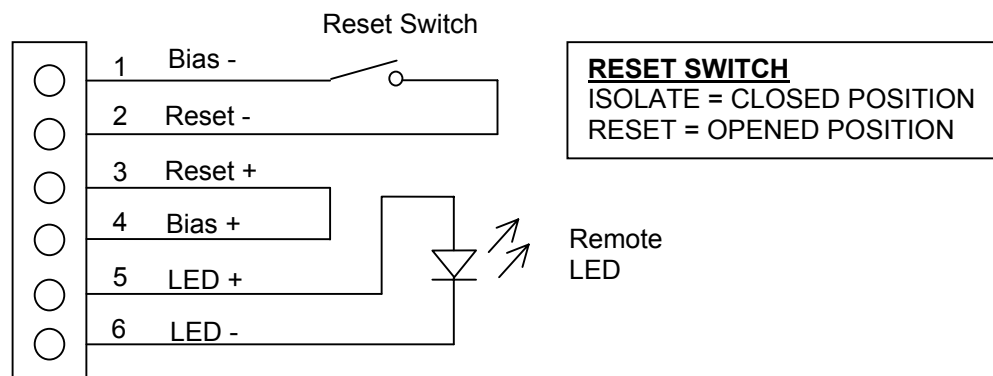

Figure 14 Wire Connection Details for Auxiliaries
- Bias +/-** This output provides a 10V supply via a 1K resistor to power the remote Reset/Isolate switch when connected as per Figure 14.
- c) Terminate the RESET, LED and Bias wires as per your site requirements or with reference to Figure 14